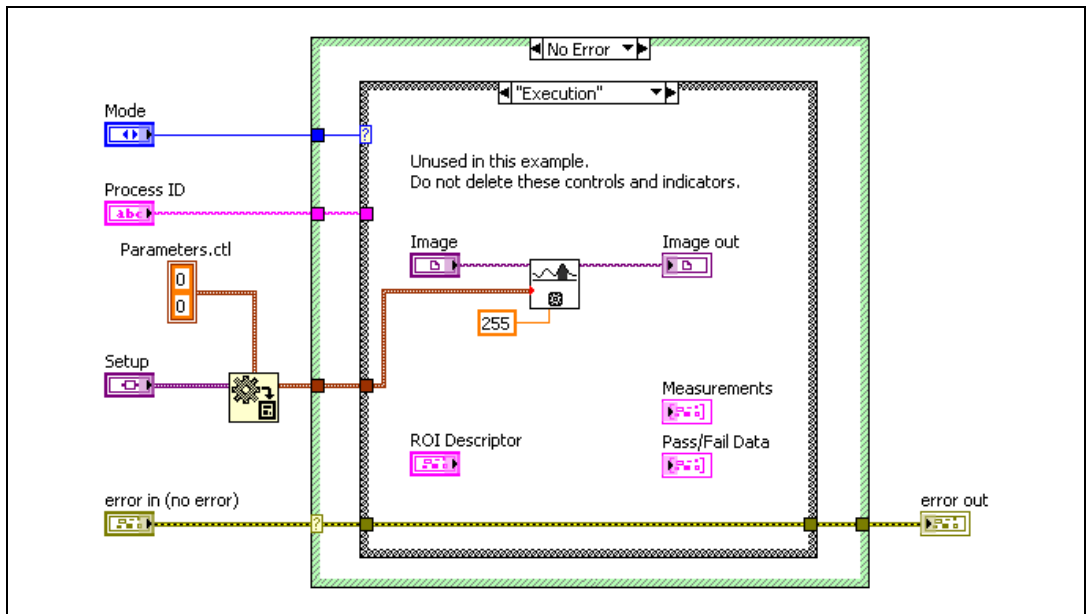

Figure 3-5. Adding the Image Threshold Code
6. Complete the following steps to build the block diagram shown in Figure 3-5: